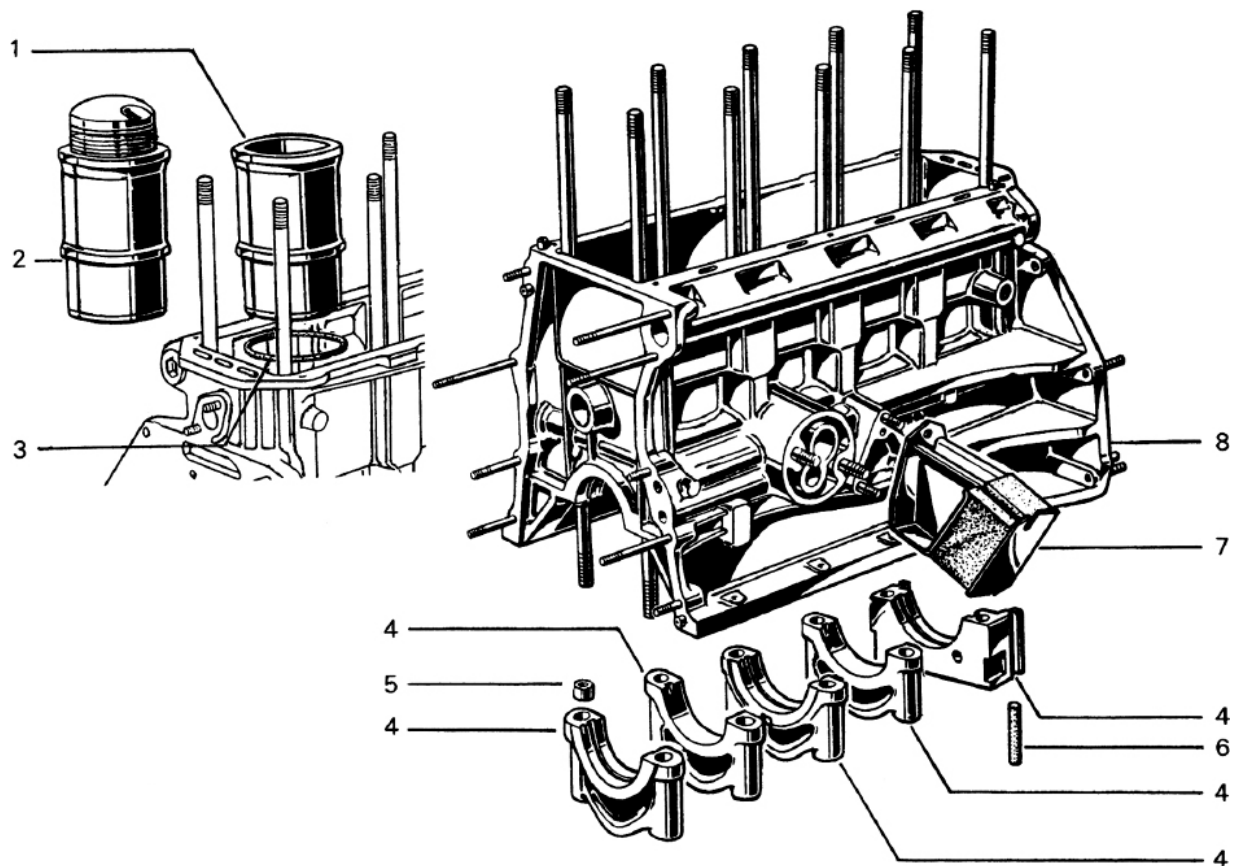

FIG 1:3 The crankcase assembly
- 6 Slacken the cylinder head bolts by a part of a turn at a time in the order shown in **FIG 1:12** until they are free. Remove the head nuts and the two screws fixing the front cover to the head, then lift off the head.
Key to Fig 1:3